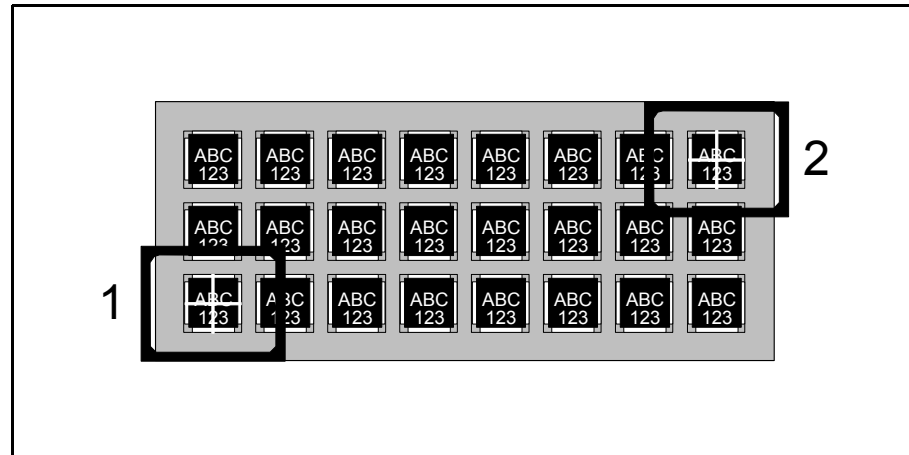

Figure 6-9. Positioning first and last component
Figure 6-9 shows the cross hairs on the first component (1) and on the last component (2).